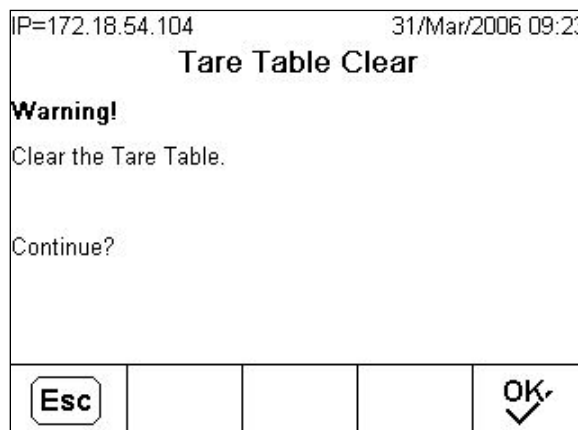

Figure C-15: Clear Tare Table Warning Screen
- Press the CLEAR softkey **C** when viewing the first setup page for the table in Setup at **Application > Memory > Tare Table**. The screen shown in Figure C-15 displays.